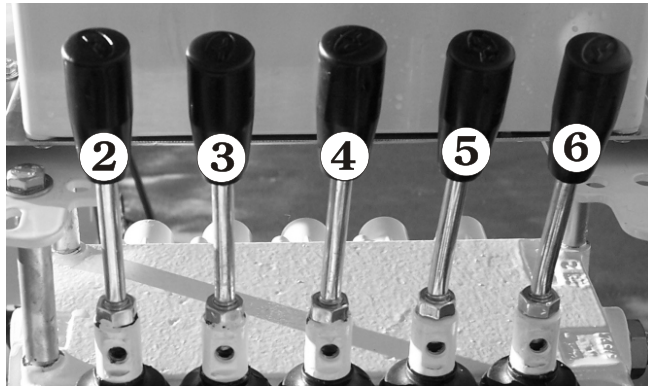

Figure 9.22 - Platform Boom and Basket Controls
With the Ground/Platform Selector set to platform: Check that each of the boom moving valve levers (see Figure 9.22) (② through to ⑥) cause the MHP15/44HD V2 to move the way it should.